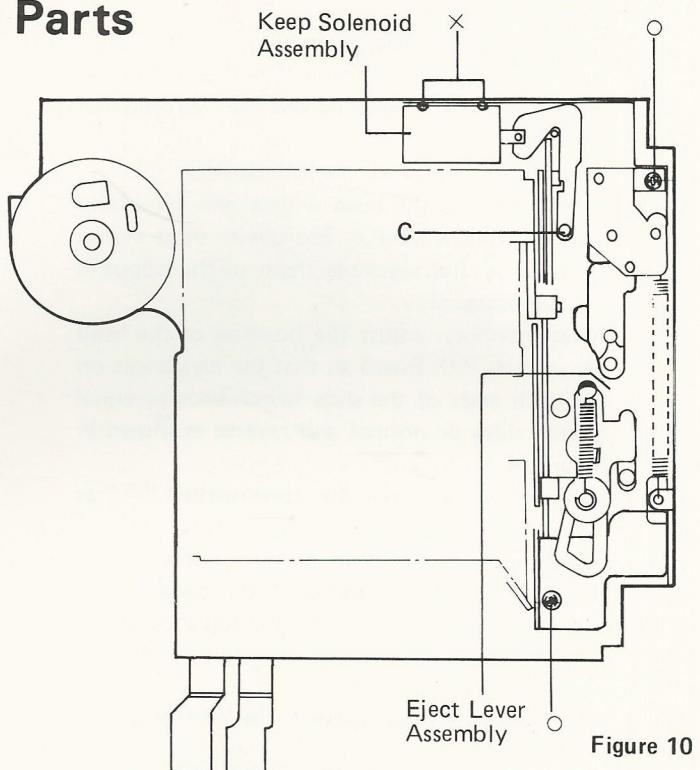

Figure 10
- (1) Remove two screws marked "○" as shown in Figure 10.
- (2) The eject lever assembly can be removed.
- (1) Remove two screws marked "X" as shown in Figure 10 and the keep solenoid can be removed. (Plunger can not be removed)